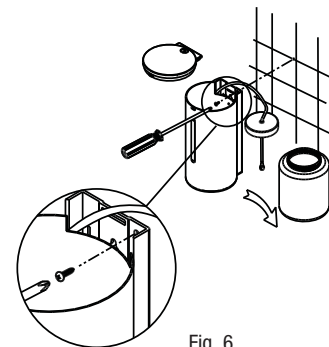

Fig. 6
6. Remove soap tank, then lock dispenser to wall with locking screw provided. (Fig 6.)